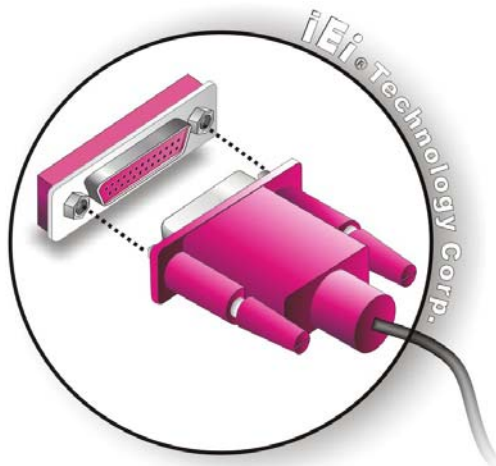

Figure 4-20: Connect the LPT Device
Step 5: **Connect LPT device.** Once the LPT interface connector is connected to the chassis, the LPT device can be connected to the LPT interface connector. See Figure 4-20